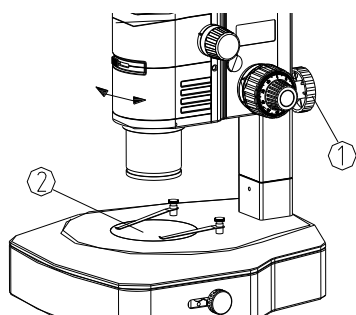

Fig. 11
- 1) Loosen the lock knob ①, and rotate the microscope body and the focusing bracket group left and right.
- 2) Match the center of zoom body group with the center of worktable, then lock the lock knob ①. (See Fig. 11)